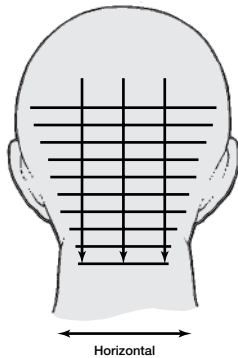

FIGURE 30 | Horizontal, zero elevation.
- To perform a 0-degree (zero elevation) cut, a *parting* is made in the section to be cut (Figure 30). After combing the hair straight down from where it grows, it is cut either against the skin (as in the nape or around-the-ear areas) or as it is held straight down between the fingers. Both stationary and horizontal traveling guides are used to create the design or perimeter line. The design line then serves as a guide for all subsequent partings that will be brought to the design (perimeter) line for cutting. This technique creates crisp, clean lines around the hairline on shorter hairstyles and achieves the standard “blunt cut” on longer hair.